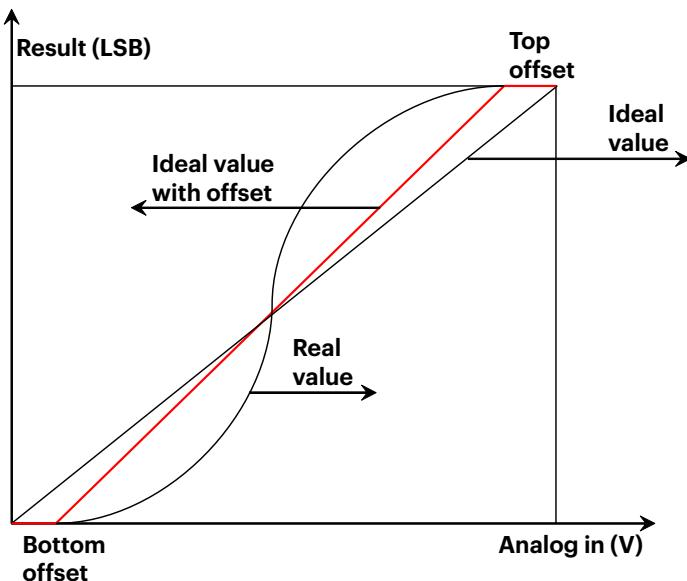

Figure 3. ADC LSB behavior
*Figure 3* depicts the dynamic behavior between input voltage on the ADC and resulting LSB value in the ADC register.